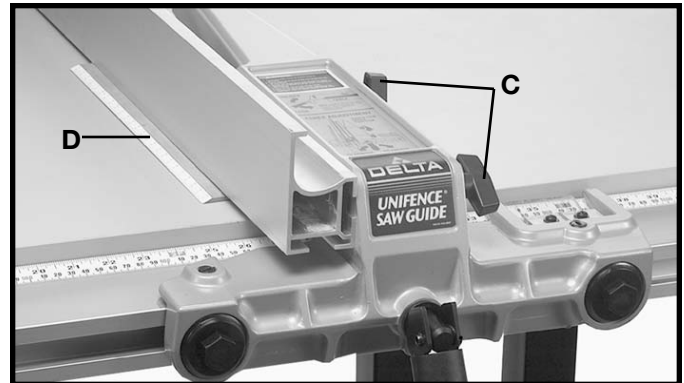

Fig. 68
2. For most normal ripping operations, the bottom of the fence should be positioned slightly above the table surface. Loosen two lock knobs (C) Fig. 68, and place a thin object such as a ruler (D) between the table and fence, as shown. Then tighten two lock knobs (C).